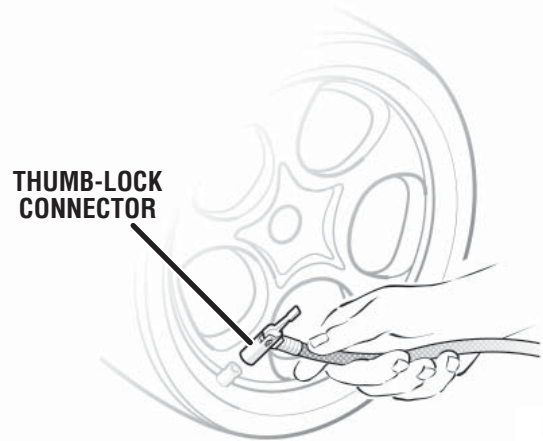
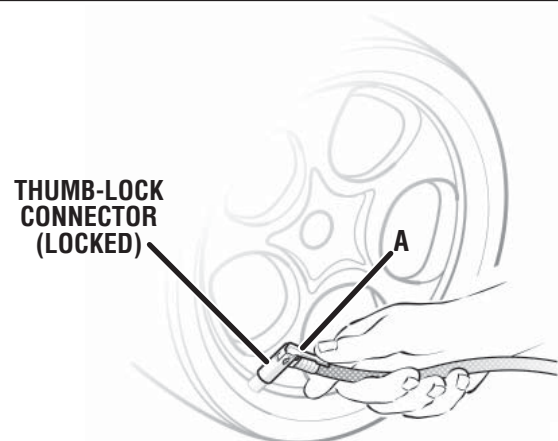

Fig. 9
Fig. 10
- With the thumb-lock connector lever in the open position (Fig. 9), place connector over the tire stem and fold the lever over (A) until the connector locks securely on the tire stem (Fig. 10).